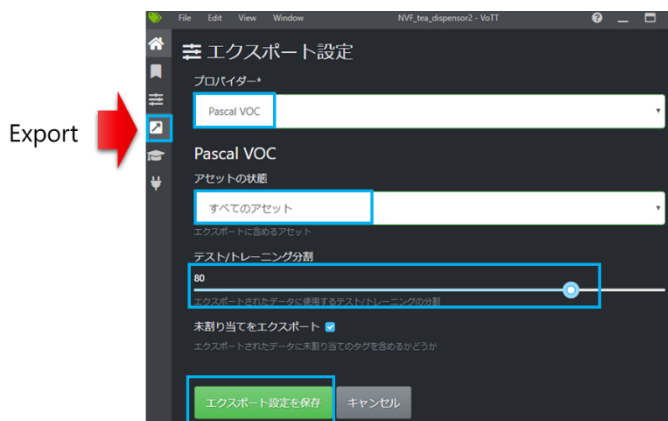

Fig.4.11 Export settings
- When the annotation work is finished, click the export button on the left of the screen to display the export settings screen shown in Fig. 4.11. Set Provider to Pascal VOC and Asset Status to All Assets \*. (\* You can change the asset status to another setting if necessary.) The standard test/training split should be 80% and adjust according to the number of thermal images and the convergence status of model training.